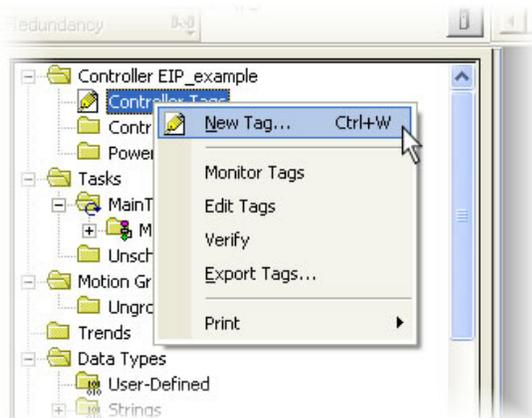

Figure 4: New Tag Menu
1. In RSLogix 5000, create a new tag by right-clicking on the “Controller Tags” menu in the project tree and selecting “New Tag...” (refer to Figure 4).
1. In RSLogix 5000, create a new tag by right-clicking on the "Controller Tags" menu in the project tree and selecting "New Tag..." (refer to Figure 4).